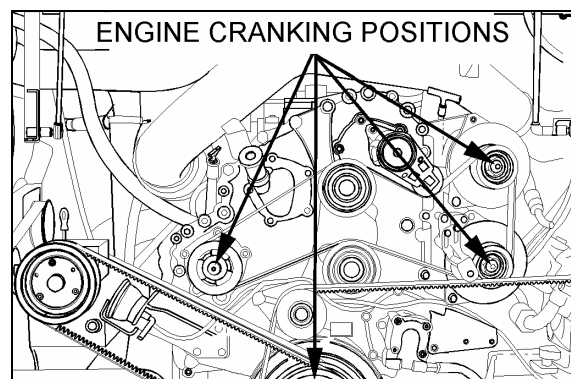

FIGURE 16: ENGINE CRANKING POSITIONS
14. Remove the access plug from the flywheel housing on the R.H. side below starter. From access plug, remove the 12 converter-to-flexible plate attaching screws. Cranking the engine to gain access to the attaching screws may be done by turning one of the alternator shafts counterclockwise, the idler pulley or crankshaft pulley using a suitable adapter (fig. 16).